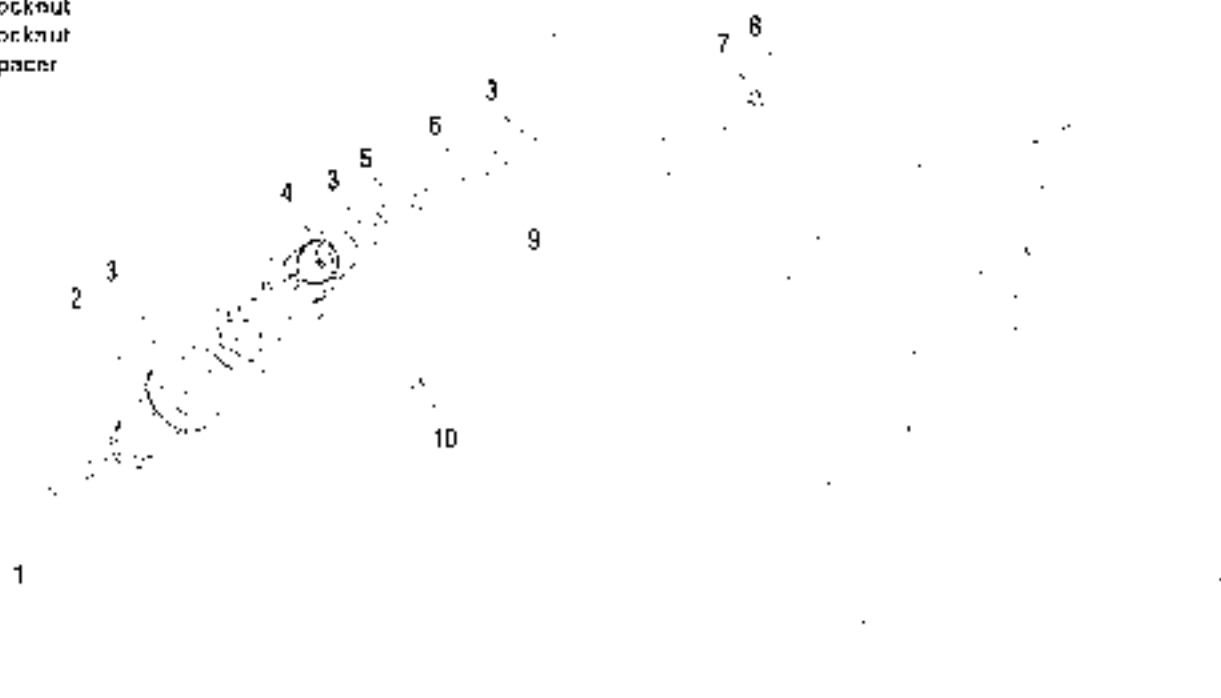

Figure 2-106 Rear Shock Absorber: FXDX, FXDXT
1. See Figure 2-106. Remove lower shock mount from rear link.
- Remove screw (1), washer (3) and locknut (8).
2. Remove upper shock mount from shock mount (6).
- a. Remove acorn nut (2) and washers (3).
- b. Remove shock (4), and shock bolt sleeve (5).
2. See Figure 2-106. Attach lower shock mount to rear link.
- a. Apply two to three drops of LOCKTITE THREAD-LOCKER 243 (blue) to threads of bolt (1).
- a. Install bolt (1), spacer (10), and locknut (9).
3. Attach upper shock mount to shock mount (6).
- a. Apply two to three drops of LOCKTITE THREAD-LOCKER 243 (blue) to threads of shock mount (6).
- b. Install shock bolt sleeve (5), shock (4), washers (3), and acorn nut (2).